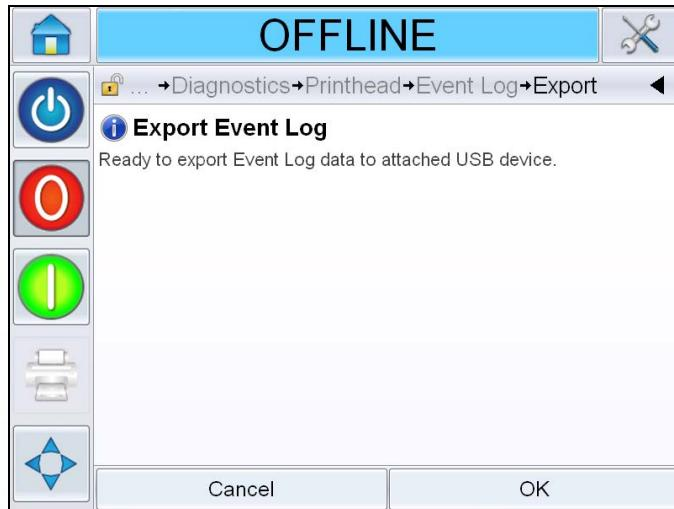

Figure E-11: Export Event Log Confirmation
- c. Confirmation page will be displayed (see Figure E-11).